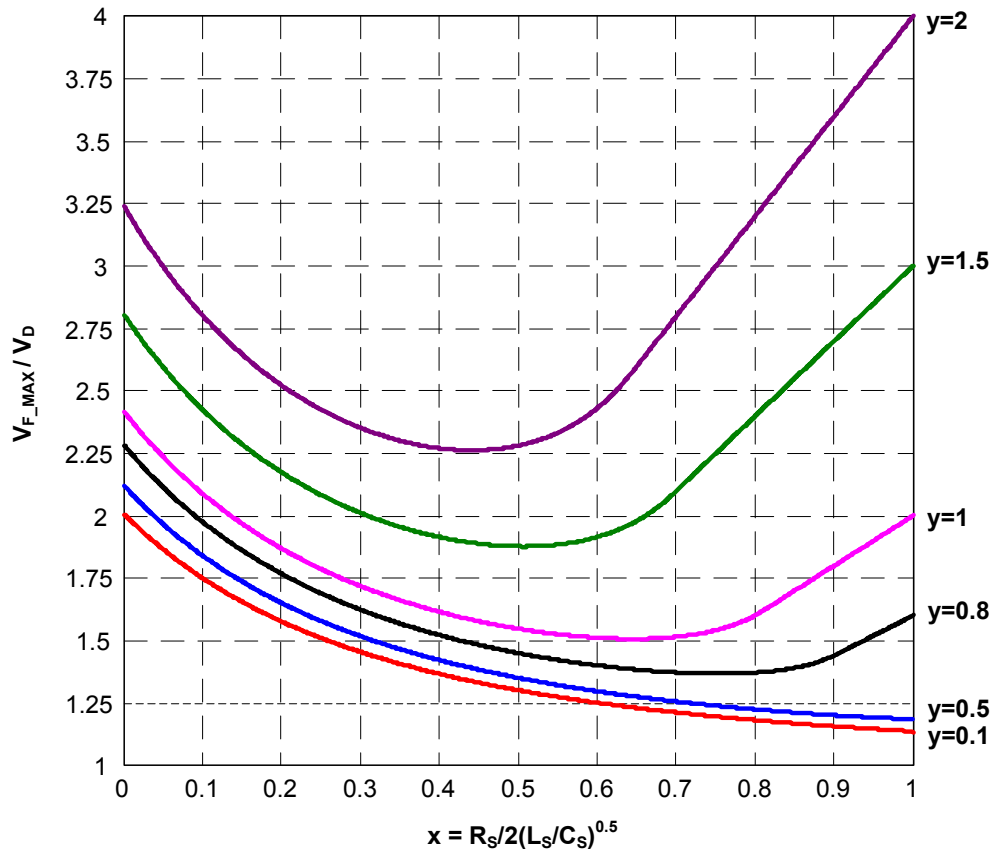

Figure 14 — R_S Value Effect on the SR FET Voltage Spike
Once C_S is selected, y in (12) becomes a constant which makes V_{F_MAX} a function of x . Figure 14 shows the drain-source peak voltage spike as function of x and y , from which we can see with different y value, x that implies R_S selection always has an optimized value which makes the drain-source peak voltage
With $y \approx 0.9$, we can get the optimized RC snubber design is to make x be ~ 0.7 according to figure 14:
- Select the SR FET with smaller Q_g , which help to reduce the t_{D_off} . Basically we can evaluate our desired t_{D_off} based on figure 14 and equation (12):
For example, if we hope the maximum voltage spike V_{F_MAX} be less than 1.5 times of V_D , then known from figure 14, to get $V_{F_MAX}/V_D \leq 1.5$, we need to design $y \leq 1$: